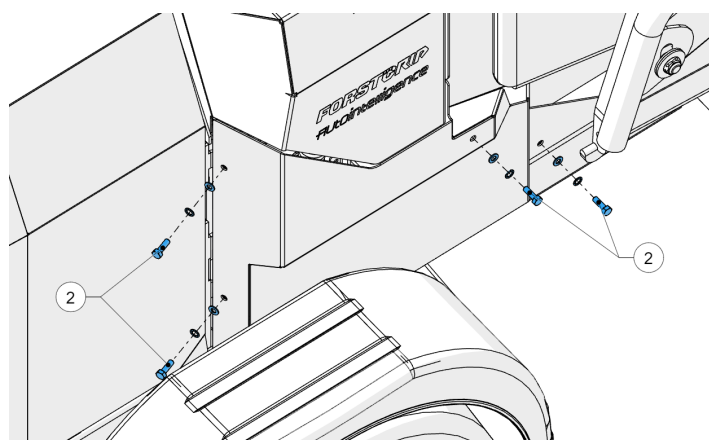

Figure 48 - Remove bolts
3. Remove the bolts securing the panel (2, Figure 48).